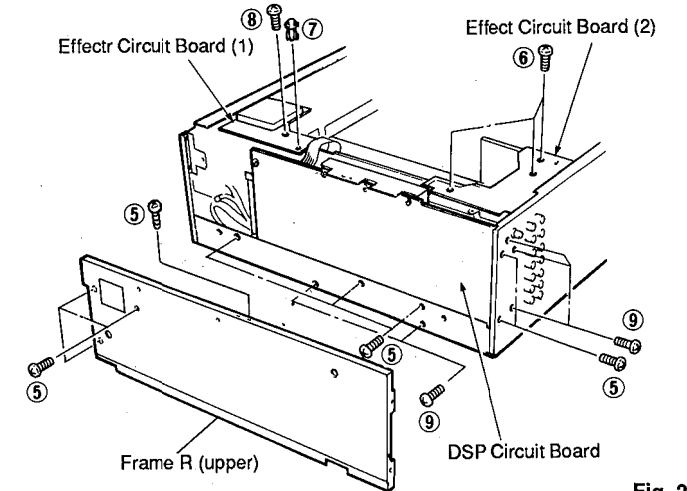
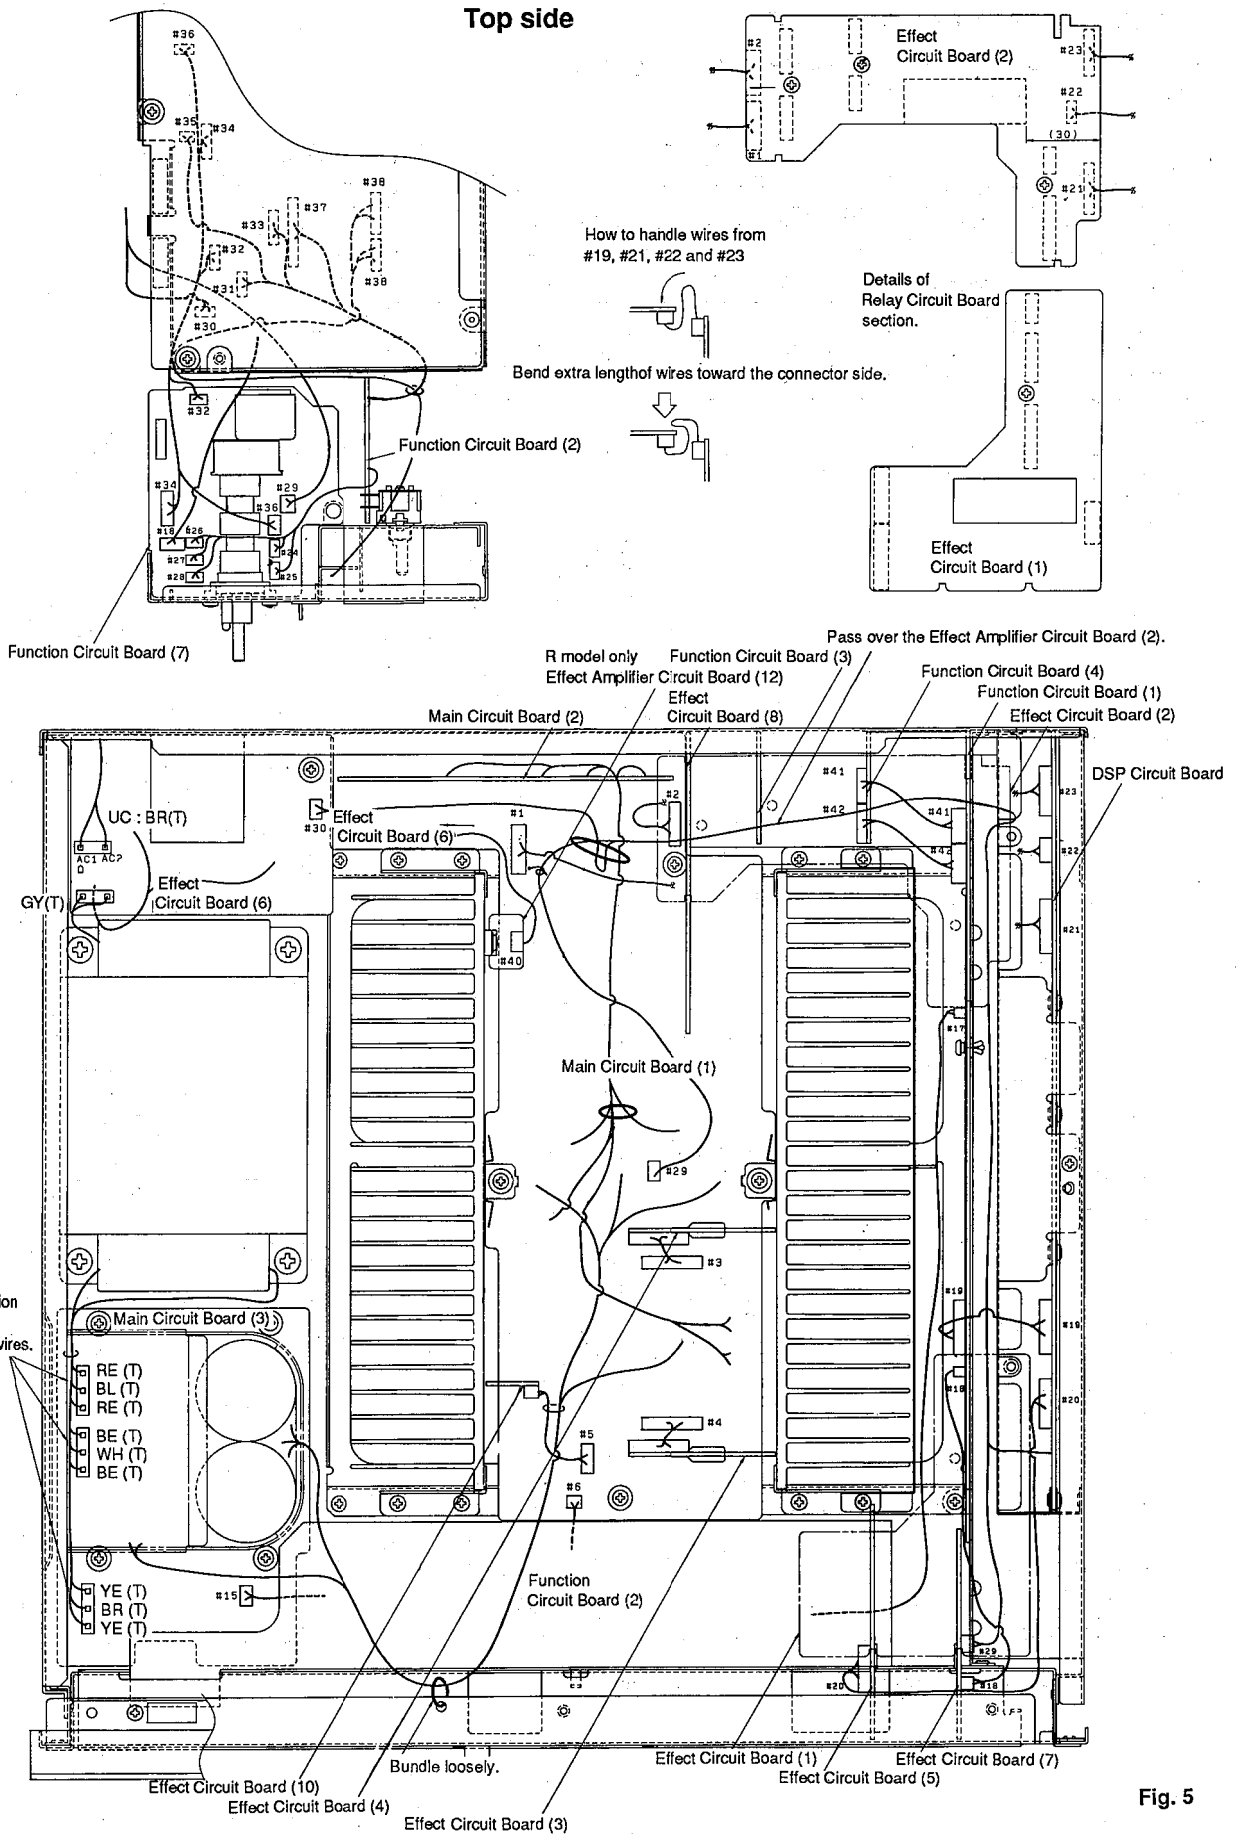

Fig. 2
Fig. 5
- a. Remove 9 screws (5) and then remove the Frame R (upper) in Fig. 2.
- b. Remove 3 screws (6) and then remove the Effect Circuit Board (2) by lifting it up gradually in Fig. 2. For this removal, also remove connectors (#1, #2, #21—#23) as necessary. (Fig.5 Wiring Diagram)
- c. Remove 3 connectors of the Effect Circuit Board (1).
- d. Remove 1 plastic rivet (7) and 1 screw (8) and then remove the Effect Circuit Board (1) by lifting it up gradually in Fig. 2.
- e. Remove 5 screws (9) and then remove the DSP Circuit Board (with shield case DSP) in Fig. 2. For this removal, also remove connectors (#19, #20, #30—#38) as necessary. (Fig. 4, Fig. 5 Wiring Diagram)
5. Removal of Function circuit Board (1)
- a. Remove 4 screws (10) and 2 plastic rivets (11) and then remove the Function Circuit Board (1) in Fig. 3. For this removal, also remove connectors (#17, #18, #41, #42) as necessary. (Fig. 5 Wiring Diagram)